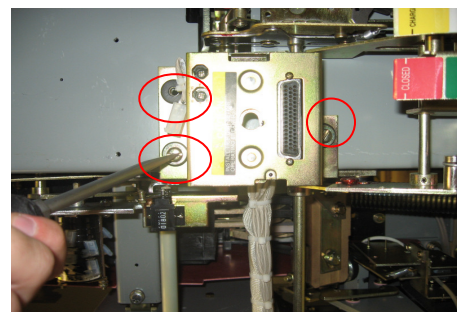

Figure 6 (Side Ways)
5. Remove the three screws holding the mounting plate with a screwdriver as shown in figure 6. Save the screws and washers for remounting the plate later.